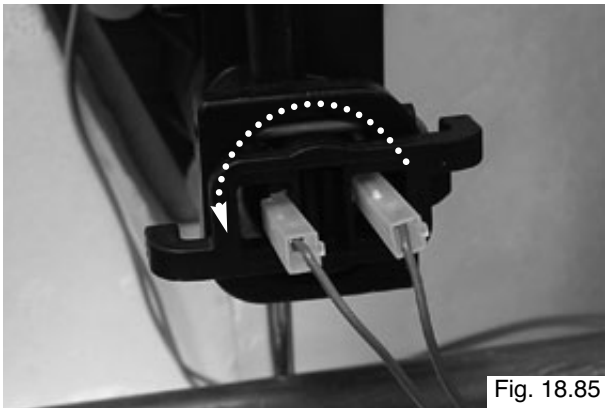

Fig. 18.85
2. Turn the sensor support anticlockwise to liberate it (see Fig.18.85);